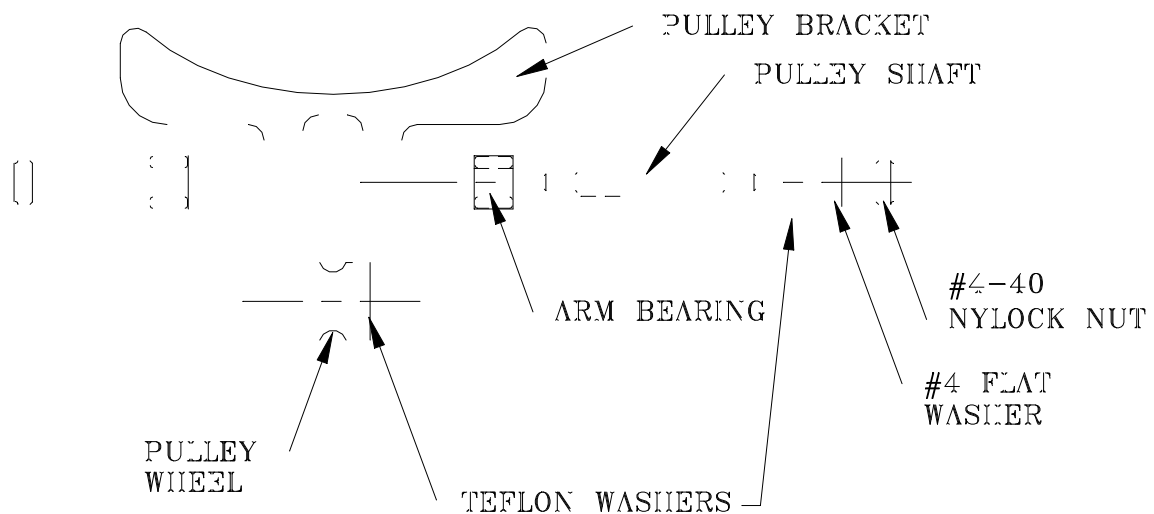

Figure 5.9- Rear cable pulley assembly
9. Place a Teflon washer on each side of the Rear Cable Pulley (T1NKM312) and position it between the arms of the Rear Pulley Bracket (T1NKM310). Lightly tap the Pulley Shaft (T1NKM311) through the arm bearings, pulley wheel and washers. Center the shaft on the pulley assembly and secure each end of the shaft using a Neck Teflon Washer (T1NKM313), a #4 flat washer, and a #4-40 nylock nut {1/4 socket}. Tighten the nylock nuts until contact is achieved. An exploded view of this assembly is shown in **Figure 5.9**.